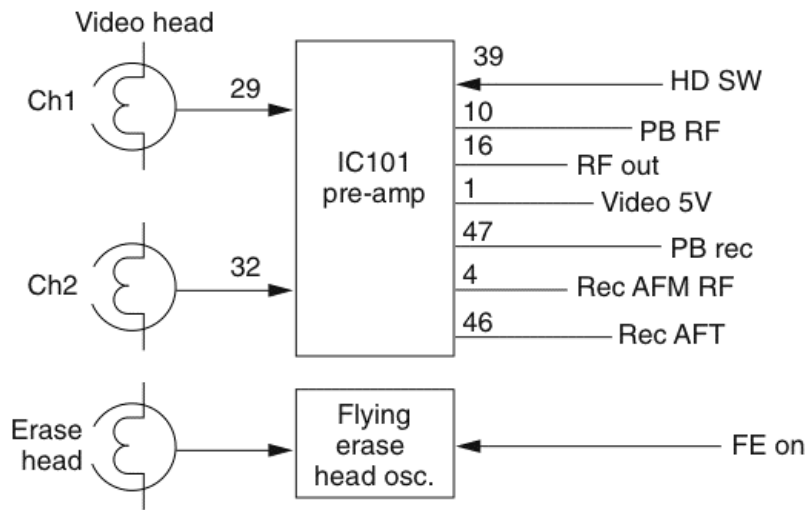

FIGURE 38-4 The CH1, CH2, and FE video heads with preamp IC101 circuits in the 8-mm camcorder.
The video head drum contains CH 1 and CH 2, which are fed into preamp IC101 at pins 29 and 32. CH 1 and CH 2 are mounted 180 degrees apart. Also in the drum is a flying erase head (FE), which is controlled by erase oscillator GM161 from the FE pond circuits. The drum head is rotated by a drum motor (Fig. 38-4).